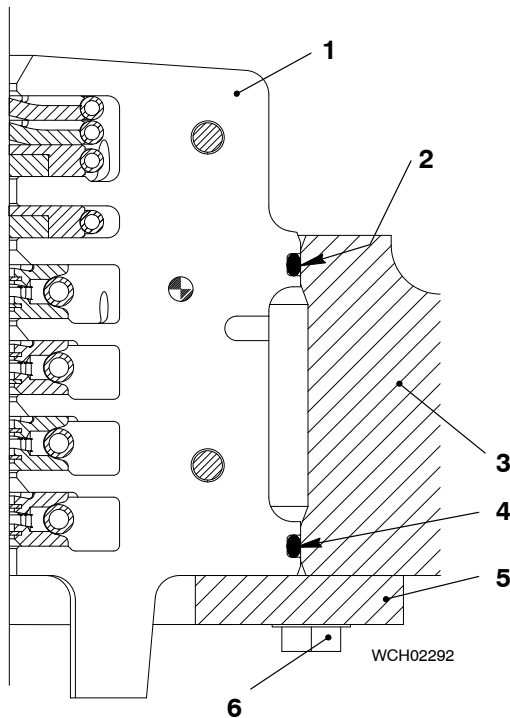

Fig. 8
- 1) Apply lubricating oil to the opening in the cylinder jacket (3, Fig. 8) and to the area of the O-rings (4) on the housing (1).
- 3) Make sure that the support (5) is installed onto the cylinder jacket (3).
- 4) If necessary, torque the outer bolts (6) to 150 Nm.